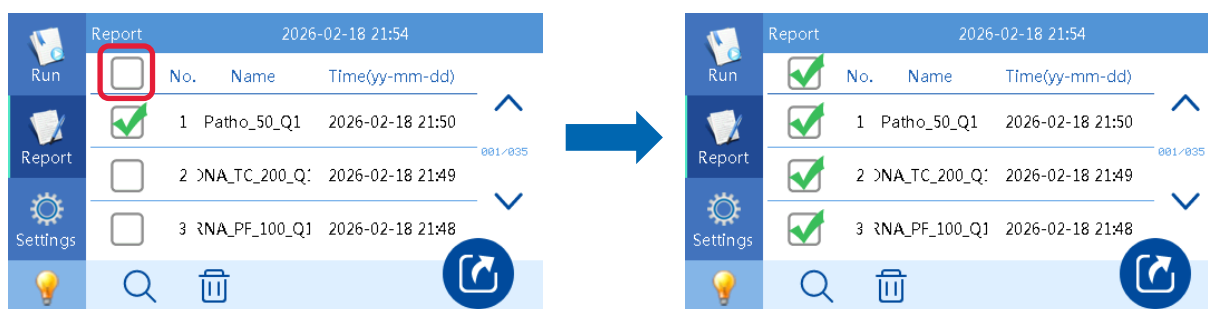

Figure 56: QIAmini report menu – selection of report(s). The checkbox highlighted by red rectangle can be used to select all reports at once.
- 3) Select the reports(s) designated for download using the checkbox. To download all reports at once the checkbox in the header can be used (Figure 56).
- 2) Select the reports(s) designated for deletion using the checkbox. To delete all reports at once the checkbox in the header can be used (Figure 56).